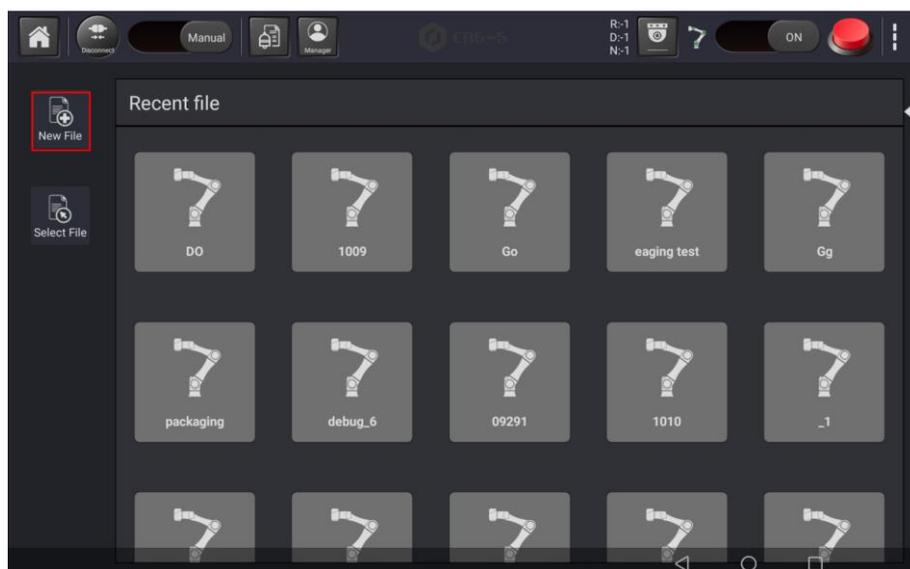

Figure 5.43 Create new file
**Step 1** Click **New File** in **Script program** page, as shown in Figure 5.43 .